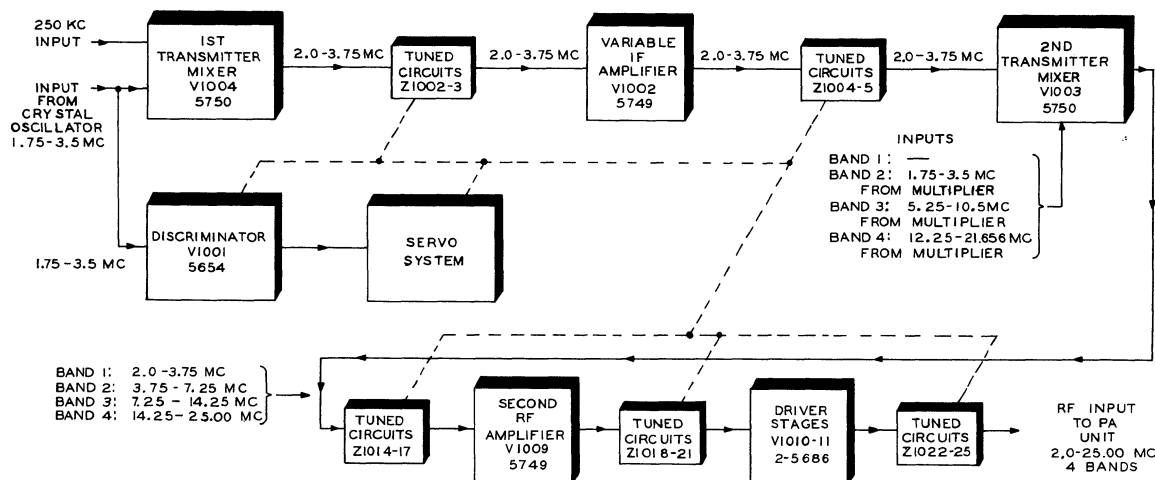

Figure 4-12. R-F Tuner, Transmit Position, Block Diagram
4.9.3.1.1 BLOCK DIAGRAM. Refer to figure 4-12. In transmit position, the output of the r-f crystal oscillator unit is mixed with a 250-kc injection voltage to provide a variable intermediate frequency of 2.0 - 3.75 mc on bands 1 through 3 and 2.0 - 3.34375 megacycles on band 4. The variable i-f output is then mixed with various multiples of the fundamental, 1.75 - 3.5 mc, depending upon the band selected. The resultant signal is the required output; this output is then amplified by the second r-f amplifier and two parallel-connected driver tubes and used to drive the power amplifier. Table 4-4 shows the frequencies (in mc) involved in the various frequency bands.